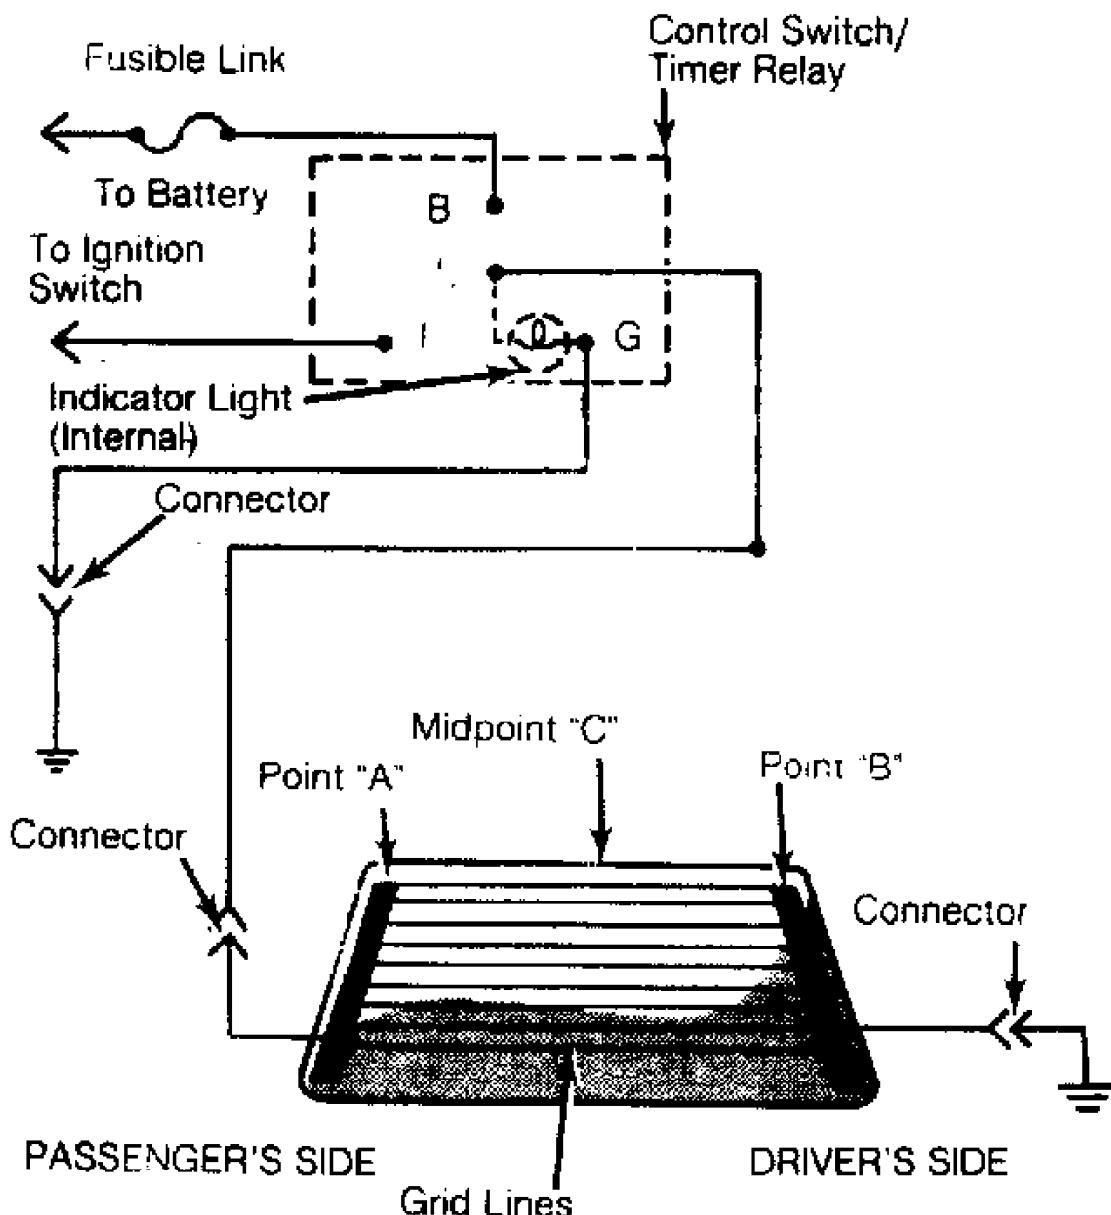

Fig. 2: FWD Heated Rear Window Electrical Circuit
2) On FWD models, connect voltmeter negative lead to point "B" and touch midpoint "C" of grid lines with positive lead. A reading of about 6 volts indicates a good grid line. See Fig. 2